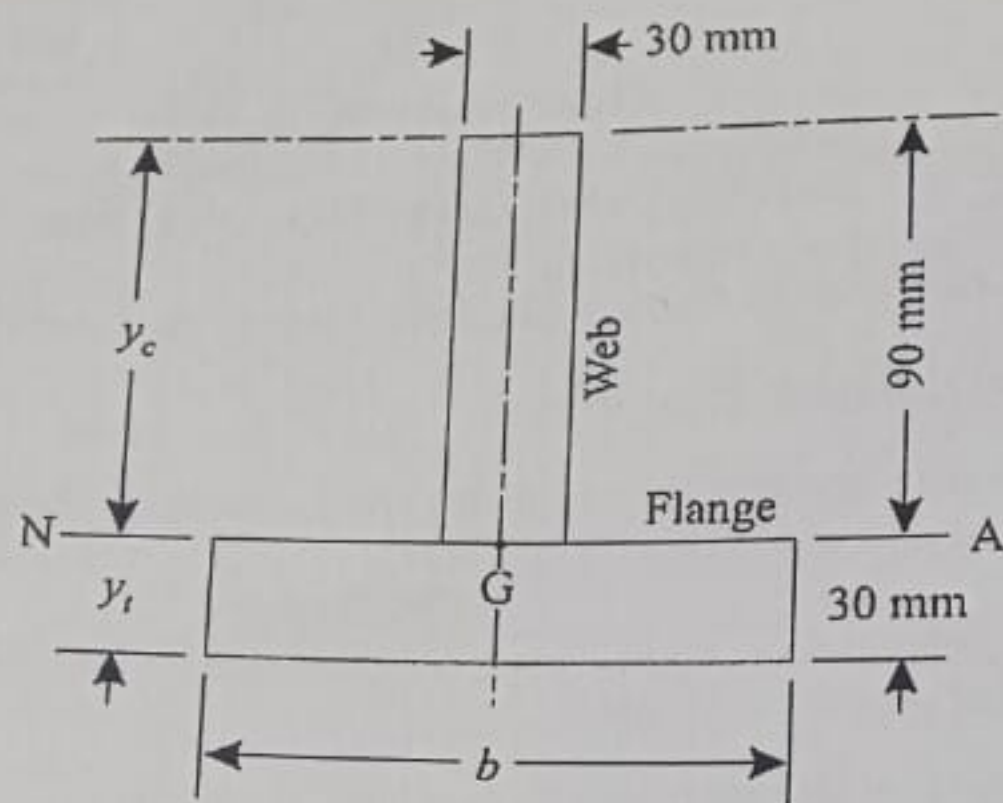

Figure 2
2. Figure 2 shows a T-beam (120 mm deep) used as a beam with simply supported ends, so that the flange comes under tension (CG is mark as point "G" in the figure 2. The material of the beam can be subjected to 75 MN/m^2 in compression and 25 MN/m^2 in tension. It is desired to achieve a balanced design so that the largest possible bending stresses are reached simultaneously. Find: